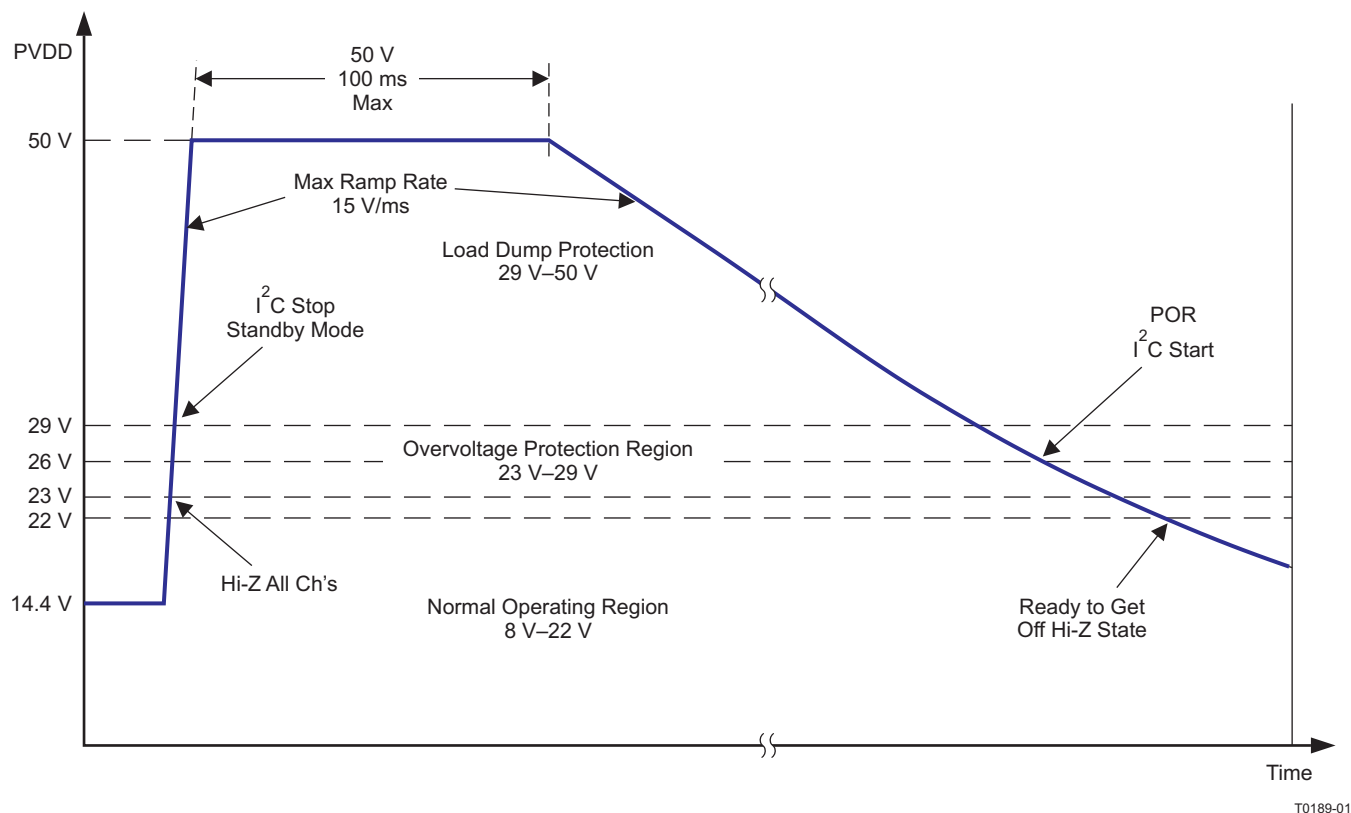

Figure 15. Voltage Operating Regions With Load Dump Transition Defined
6. **Undervoltage (UV) and Power-on-Reset (POR)**—The undervoltage (UV) protection detects low voltages on PVDD, AVDD, and CP. In the event of an undervoltage, the FAULT pin is asserted and the I²C register is updated, depending on which voltage caused the event. Power-on-reset (POR) occurs when PVDD drops low enough. A POR event causes the I²C to go into a high-impedance state. After the device recovers from the POR event, the device must be re-initialized via I²C.
7. **Overvoltage (OV) and Load Dump**—The OV protection detects high voltages on PVDD. If PVDD reaches the overvoltage threshold, the FAULT pin is asserted and the I²C register is updated. If the voltage increases beyond the load dump threshold of 29 Vdc, the device shuts down and must be restarted once the voltage returns to a safe value. After the device recovers from the load dump event, the device must be re-initialized via I²C. The TAS5414A and TAS5424A can withstand 50-V load-dump voltage spikes (see Figure 15). Also depicted in this graph are the voltage thresholds for normal operation region, overvoltage operation region, and load-dump protection region. Figure 13 shows the regions of operating voltage and the profile of the load dump event. Battery charger voltages from 25 V to 35 V can be withstood for up to 1 hour.